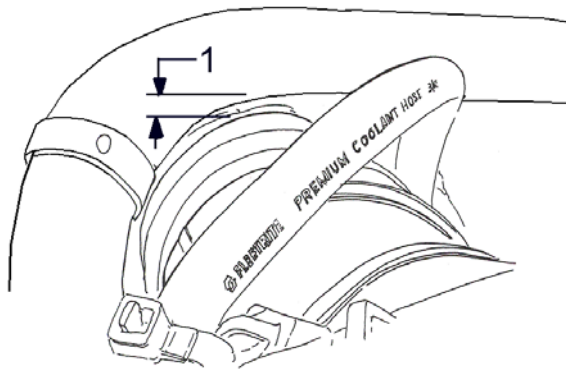

Figure 4 Clearance Between Air Cleaner Pipe and CAC Pipe
4. Inspect the charge air cooler pipe and cold air side air cleaner piping for a minimum of 3/4 inch clearance as shown in Figure 4. If clearance is needed, continue to the next Step.
7. Grasp the charge air cooler pipe that runs below the air cleaner pipe and turn it counterclockwise, approximately 25 degrees from horizontal, to increase the clearance with the air cleaner pipe (Figure 4).